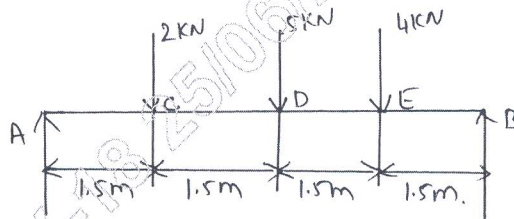

Fig.Q.5(b)
b. A simply supported Beam of 6m long is subjected to loads 2kN, 5kN and 4kN at distance 1.5m, 3m and 4.5m from left support as shown in Fig.Q.5(b). Draw shear force and bending moment diagram. (10 Marks)